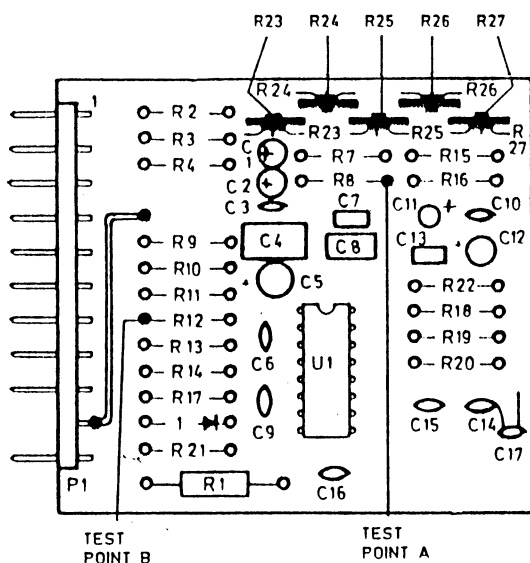

Figure 5.4 Color CRT HV oscillator board
1. Display an all-white picture, refer to Figure 5.4.
1. Display a white test grid, refer to Figure 5.4.